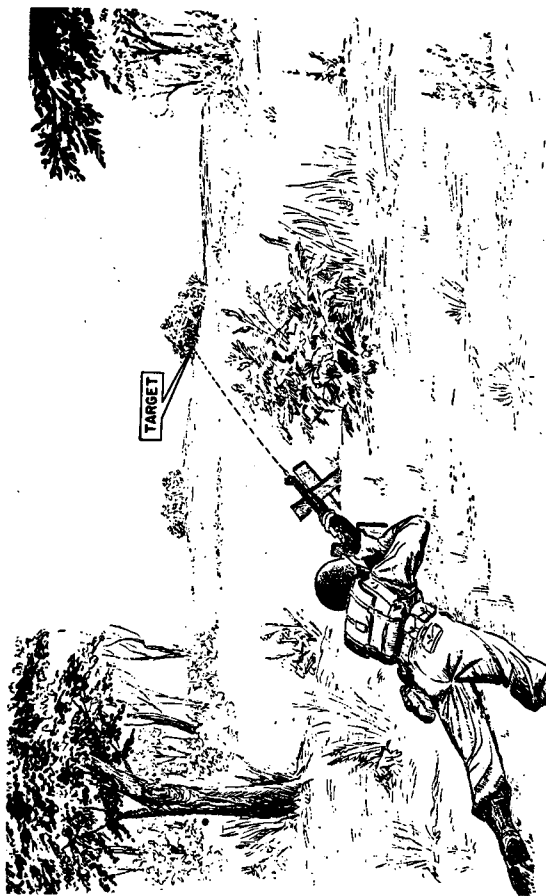
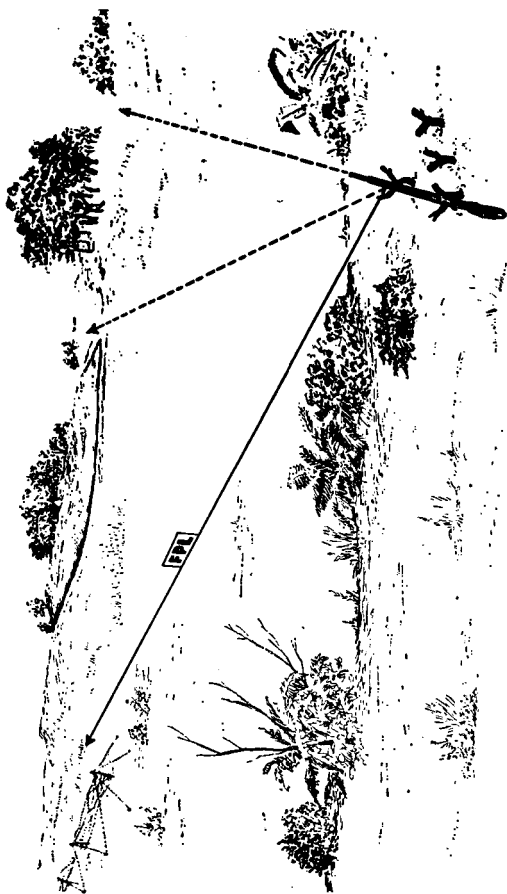

Figure 112. A rifleman using rests to deliver fixed fire on a predetermined point during low visibility.
Figure 113. A diagram showing rifle rests for the M1 rifle used in delivering grazing or fixed fire during low visibility.
- (1) Rests are made from any material available for the front hand guard and stock at a point immediately in front of the trigger guard (fig. 112).
- (2) The rifle is placed on the rests and zeroed to hit the desired point. The rests are adjusted so that when the rifle is placed in them it will be pointing in the desired direction and will hold the rifle at the desired elevation.
d. By using additional notched stakes, the firer can sight his rifle for use against more than one point (fig. 113).